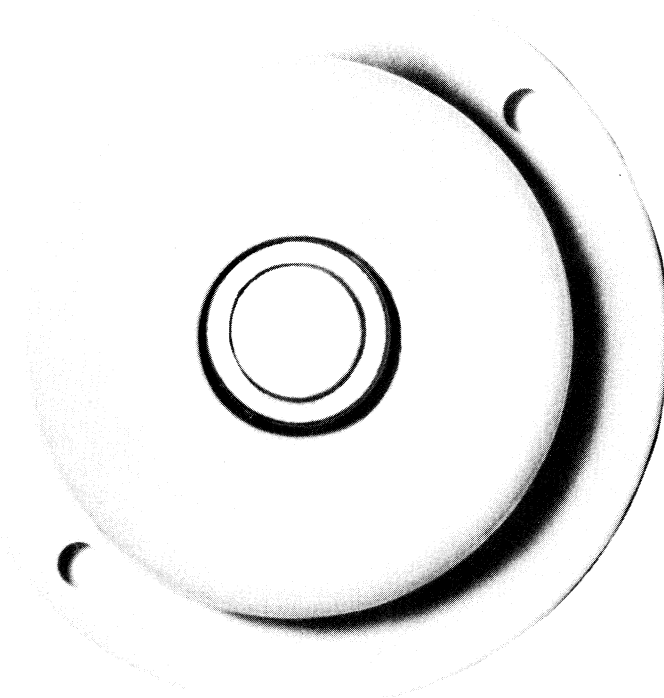

Fig. 11-2. Heat detector (courtesy of ADEMCO).
**ADEMCO Model 502.** Fixed temperature thermostat (pictured in Fig. 11-2) that activates at 135 degrees. Model 504 activates at 190 degrees and can be used in attics, hot kitchens, or near a furnace. Both are open circuit devices.